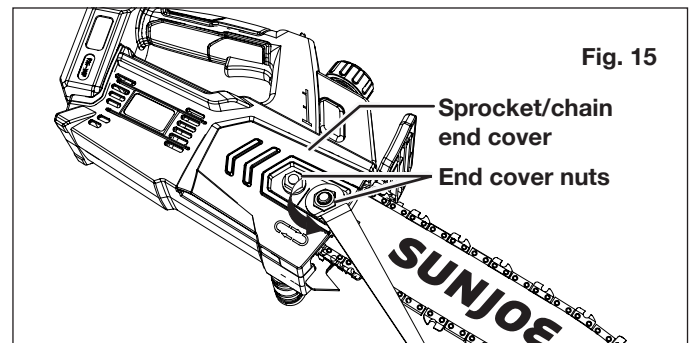

Fig. 15
1. Using the included Hex key wrench/blade screwdriver, unscrew the sprocket/chain end cover nuts to remove the sprocket/chain end cover (Fig. 15).